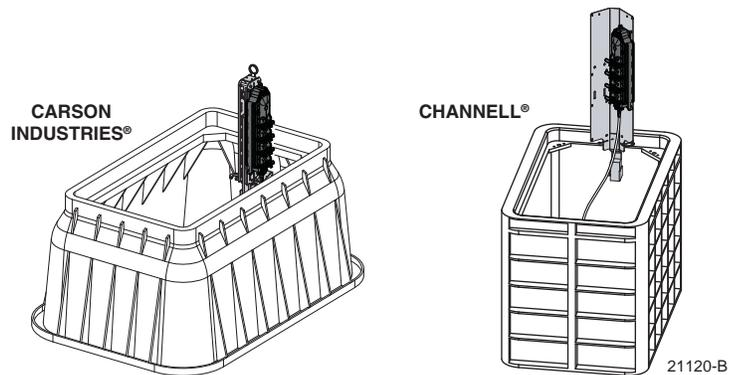

Figure 6. Typical Hand-Hole Mounting
- **Hand-Hole Mounting** (below ground) – A hand-hole enclosure (examples shown in Figure 6) is an OSP below-ground mounting system that may be used for the MST and other similar products. When installed, the top of the hand-hole enclosure is flush with the top of the ground. Hand-hole enclosures consist of a base unit and a top cover. The base unit mounts in the ground. Cables and conduit enter the base unit from the bottom.